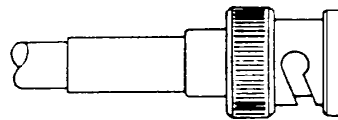

Figure 8—Completed BNC Connector
- 4) **Figure 8:** Install cable assembly into body assembly so inner ferrule slides over dielectric and under braid. Push cable assembly forward until contact seats in insulator. Slide outer ferrule over braid and up against connector body. Crimp outer ferrule using Cavity A of tools specified above.